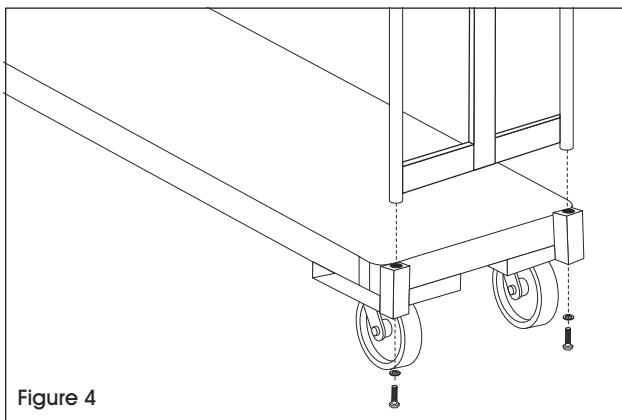

Figure 4
4. Turn the deck over onto its casters and insert the handle into the sockets. Vertical support on handle should face the outside of the truck. Secure the handles into the sockets by inserting the long hex bolts and small washers from underneath the sockets. (See Figure 4)